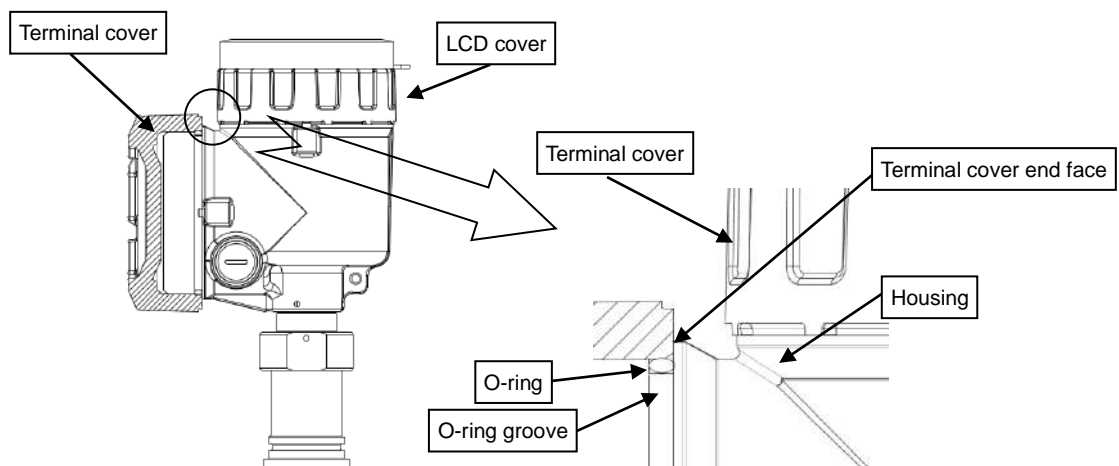

Fig. 3.1.3 Mounting the terminal cover (handling of the LCD cover is same)
- Tighten the LCD cover and terminal cover until the O-ring cannot be seen as shown in Figure 3.1.3.